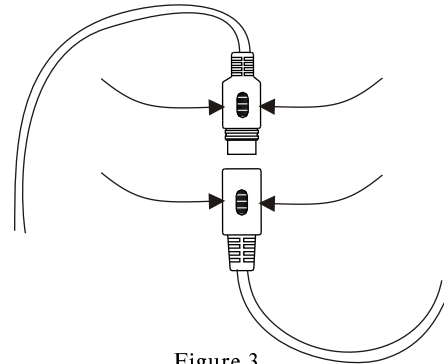

Figure 3
2. When connecting the steam control computer wire, firstly ensure the direction (Figure 3) and insert it horizontally in case the contact pins of the computer are damaged. The same operating procedure shall be followed when removing the contact pins.
5. Let the temperature detector go through the back of the detector foundation (As shown in Fig.3)
7. Apply glue to the back and fix the detector. (As shown in Fig.3)
3. Ensure the direction (Figure 3) and insert it horizontally in case the contact pins of the computer are damaged. The same operating procedure shall be followed when removing the contact pins.